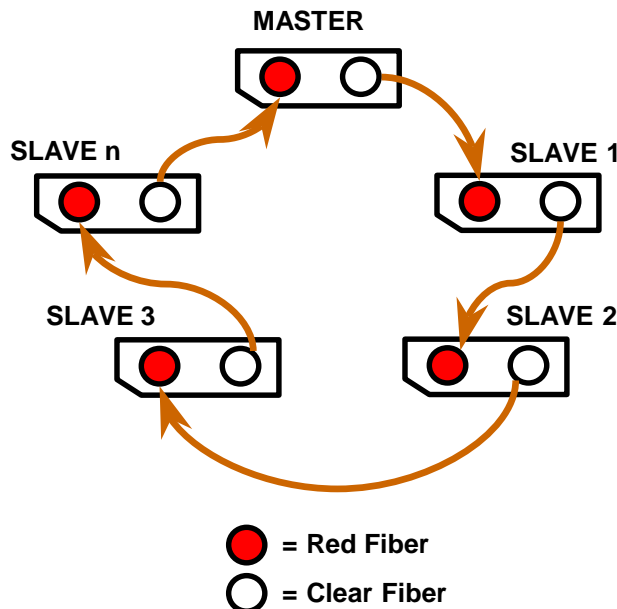

Figure 1
3. Fibers optics have a ring type configuration (i.e. The output of the preceding component is coupled to the input of the following component in a daisy chain type loop. The ring must form a closed loop in order to function [Figure 1]).
4. Light enters the clear fiber (input) and exits the red fiber (output). Each active D2B connector must therefore contain one red and one clear fiber (Figure 1).
5. The red fiber is always on the chamfered side and the clear fiber on the square side of the connector (Figure 1).
6. All fiber connections or couplings should follow a clear to red logic. A coupling must never contain two fibers of the same color (Figure 1).